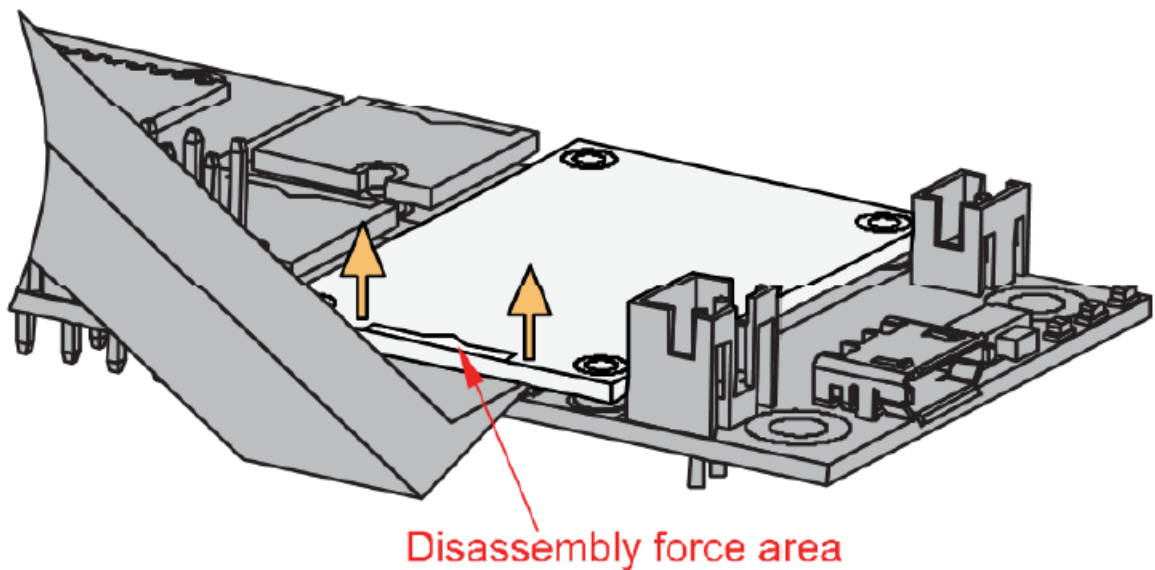

Figure 7: Applying even forces on the proper location of a WisBlock module
3. Apply force to the module at the position of the connector, as shown in Figure 7, to detach the module from the baseboard.